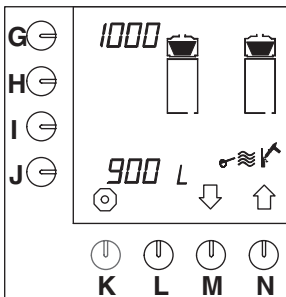

Fig. 39 Descaling signal coffee-making system
- Press (M.)↓ until fig.39 appears on the display.